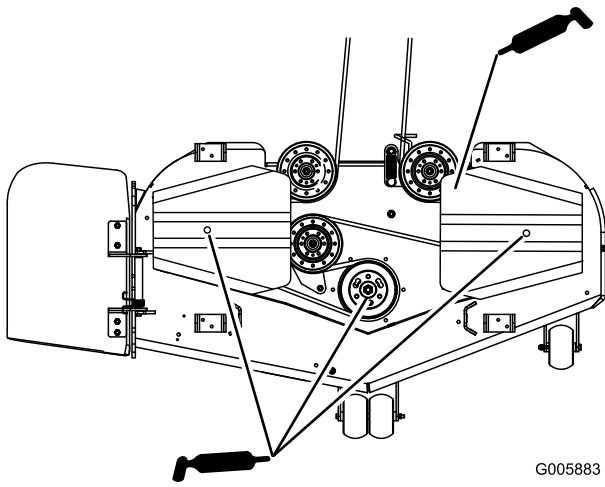

Figure 34
3. Grease the fittings on the 3 spindle bearings (Figure 34).
4. Grease the idler pulley pivot (Figure 34).